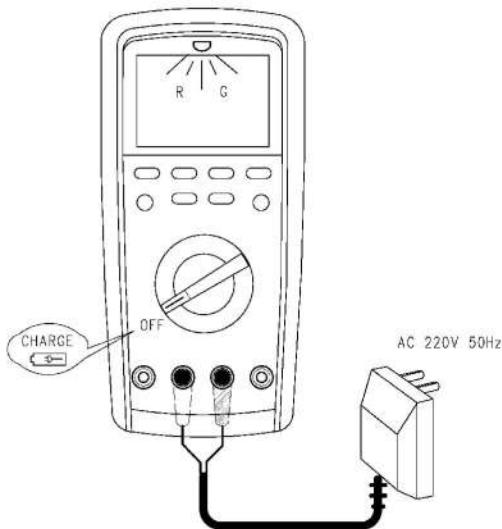

Figure 14
- * Charging internal lithium battery: (see Figure 14) (applicable to UT171B/C only) connect the charging adapter provided for accessories in accordance with the figure, to charge the internal lithium battery. In the mode of charging, a red indicator alert will be emitted on top of the instrument, which turns green when the charging voltage reaches the full value, and then the instrument will automatically cut off the charging circuit as prompt for the completion of the charging.